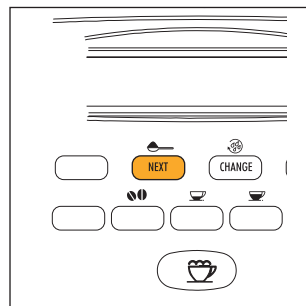

Fig.16
- Press the  button (fig. 16) to select the ground coffee function. This disables the coffee mill function. The appliance displays: